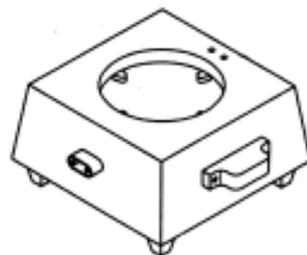

Fig. 8.2 - Body
**Body :** A body is provided to house the heater plate in it. It is made of cast iron painted or electroplated. The socket is fixed to the body, as shown in Fig. 8.2. An insulated handle is fixed on the body for safe handling.